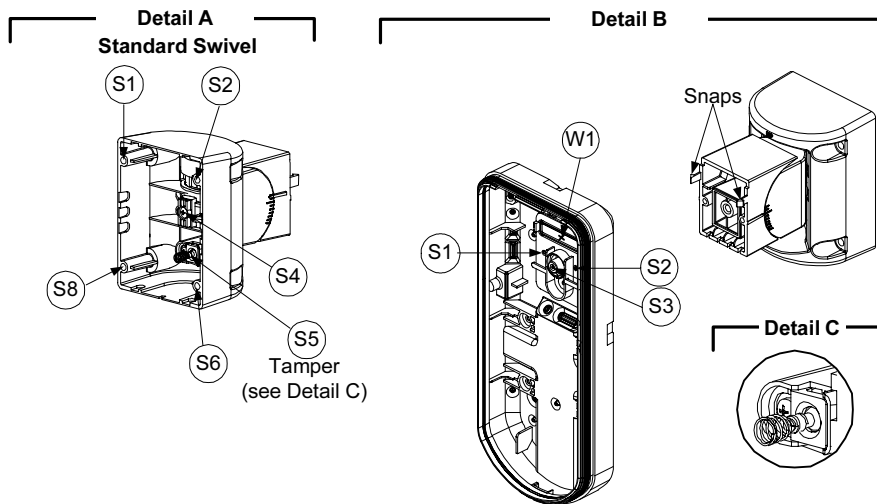

Figure 6
3. Remove back tamper from the internal base (see the "Changing Back Tamper Position" paragraph on page 7) and connect it to S5 (Figure 6, Detail A) on the Standard Swivel.
1. Insert back tamper wires through the Swivel Wires Passage (Figure 6, Detail B).